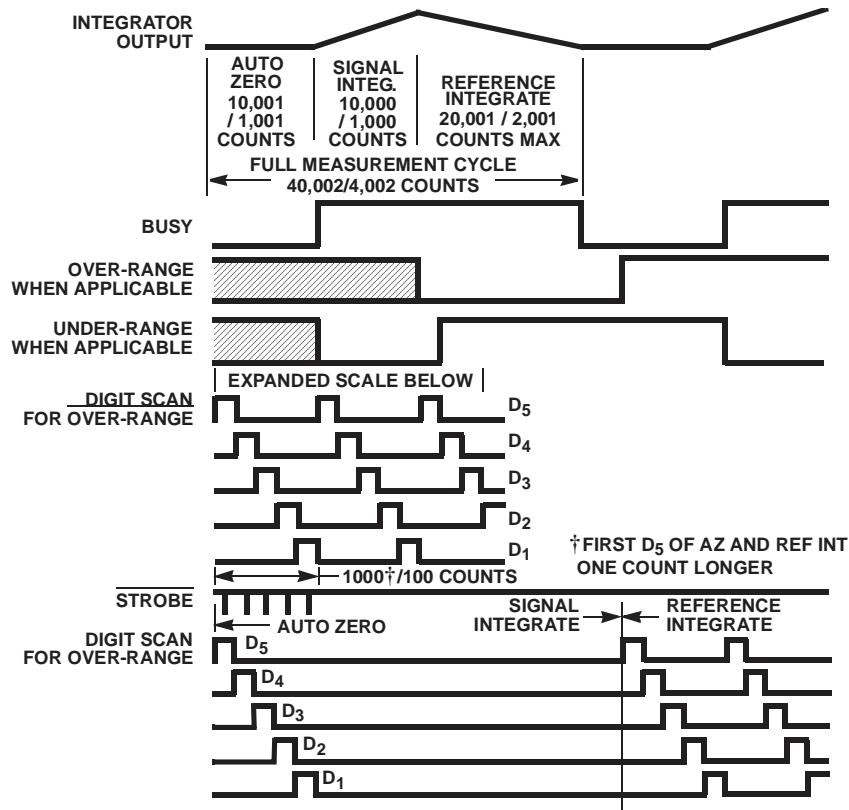

FIGURE 5. TIMING DIAGRAM FOR OUTPUTS
10. Tested in 3^{1/2} digit (2,000 count) circuit shown in Figure 5, clock frequency 12kHz. Pin 2 71C03 connected to GND.
11. Tested in 4^{1/2} digit (20,000 count) circuit shown in Figure 5, clock frequency 120kHz. Pin 2 71C03A open.